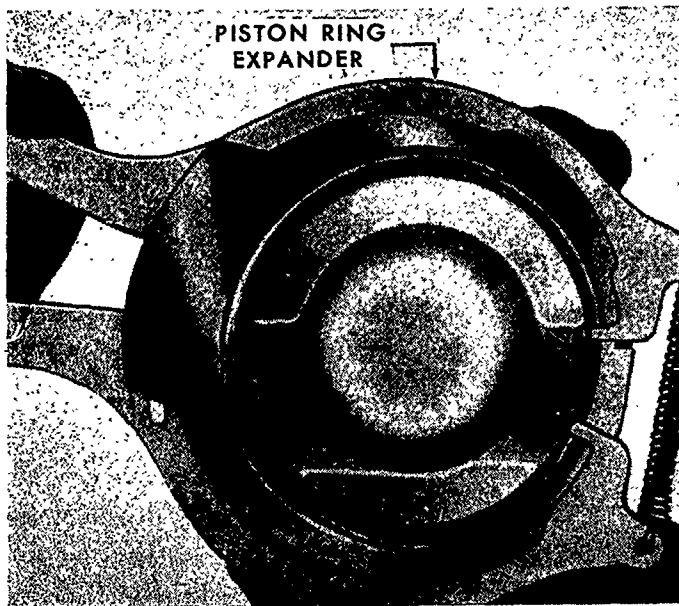

Figure 45
5. Remove the piston rings from the pistons with a piston ring expander or other suitable means, as shown in Figure 45.
NOTE: When installing the piston rings, it is recommended that a piston ring expander be used as shown in Figure 45. This tool will prevent over-expansion of the ring, and will expand the ring to a true circle to avoid distortion. The rings supplied in Service Ring Kits differ from the standard size rings used in production. Because of the differences the following points should be noted when installing new sets of rings, whether they be standard or oversize. L.P. and gasoline piston rings are assembled in the same manner as diesel piston rings, except that the 2nd compression ring on a L.P. and gasoline piston is to be assembled in a similar manner to the 3rd compression ring on a diesel piston. Always begin the assembly from the oil ring groove.